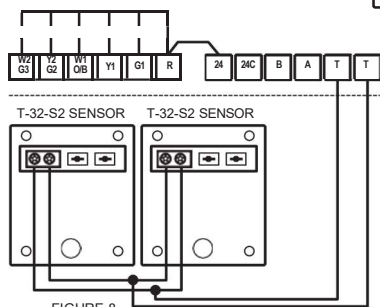

FIGURE 8
Multiple sensors can be connected to the 'T' and 'T' terminals if temperature averaging is required with or without the use of the thermostat onboard sensor. The total value of remote sensors wired in series/parallel must equal 10kΩ @ 77 °F. The onboard sensor is not part of the equation. Figure 8 shows (2) T-32-S2 sensors used for